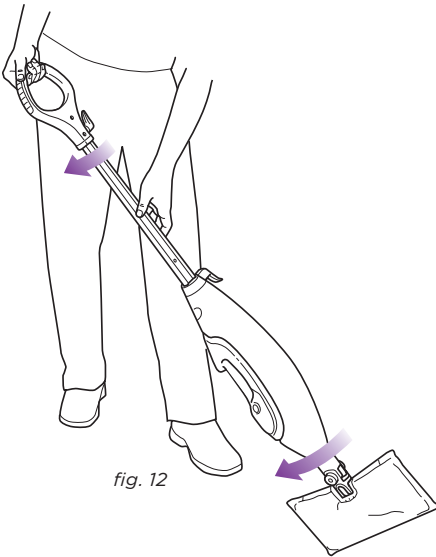

fig. 12
- 5 When one side of the micro-fiber cleaning pad gets dirty, just flip the mop and you can quickly start using the other side. (fig. 12)